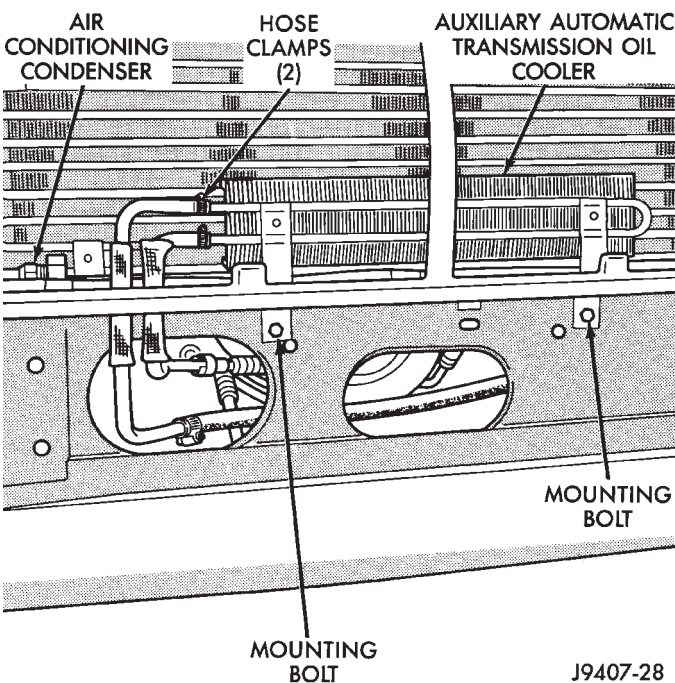

Fig. 43 Auxiliary Air-To-Oil Cooler—XJ Models
- (4) Carefully tilt the A/C condenser rearward for access to the auxiliary transmission oil cooler.
- (5) Place a drain pan below the oil cooler.
- (6) Remove the two hose clamps at oil cooler inlet and outlet tubes (Fig. 43).
- (7) Remove the two oil cooler mounting bolts (Fig. 43).
- (8) Remove the oil cooler from vehicle.
- (9) Reverse the preceding operation for installation. Tighten the two clamps 2 N·m (15 in. lbs.) torque.